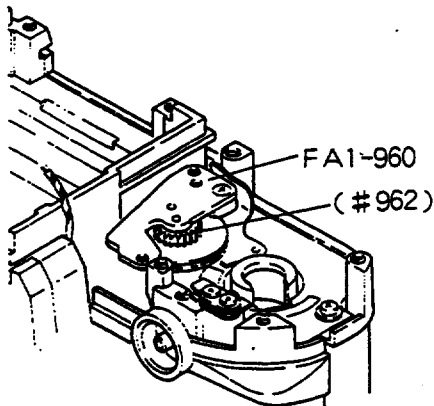
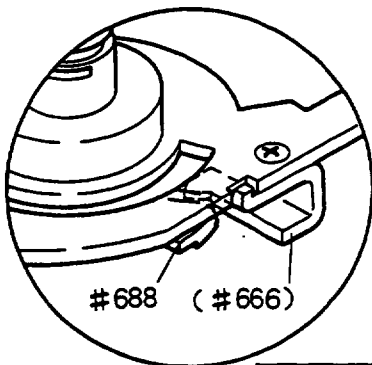

fig. 22-2
fig. 22-3
(fig. 22-2)
- 2) Brush gear should securely come in contact with Stopper (#666) when the aperture ring is reversed from F/2 to F/1.6. (fig. 22-2) Adjustment can be made by bending Stopper. (fig. 22-3)